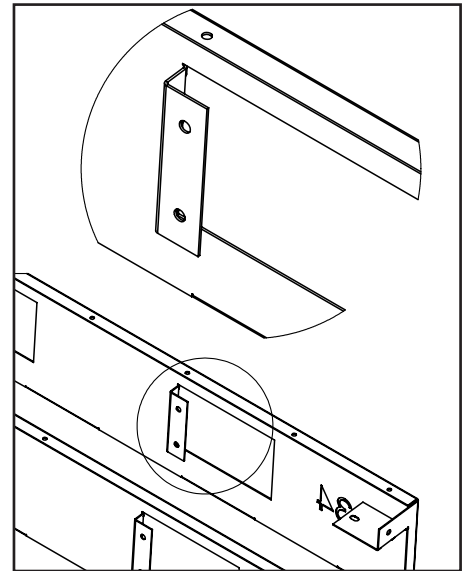

Figure 27: Rear Panel Hand Bent Flanges
Step 2: All the middle flanges must be bent 90° inwards towards the unit as shown below in Figure 27.